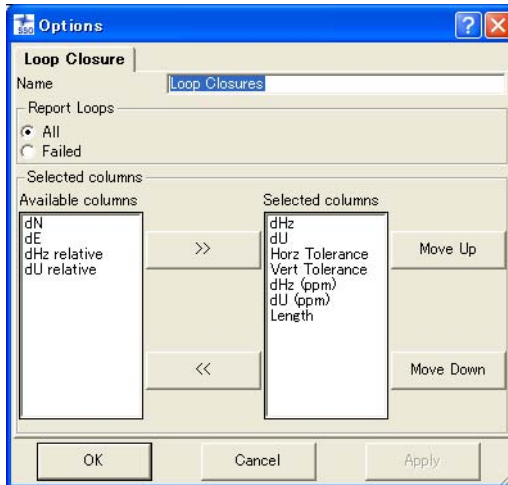

Figure 7-25. Item Options – Loop Closures
- Loop Closures – edit the name, select the loops to report, select parameters to include or exclude using the move right/move left buttons, order the display of parameters using the Move Up/Move Down buttons, and click **OK** (Figure 7-25).